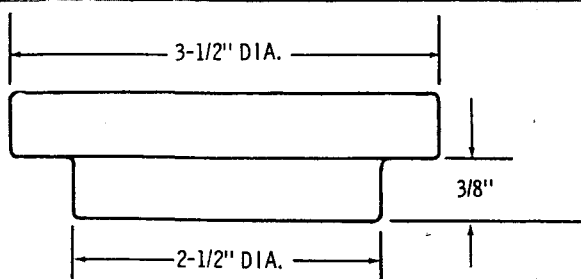

FIG. 134 1/32" RADIUS ALL CORNERS TS-8430
1. Press seal into axle shaft bearing retainer (Fig. 133), using driver with dimensions shown in Fig. 134. Lip must face upward when retainer is positioned as shown. Coat lips with Lubriplate.